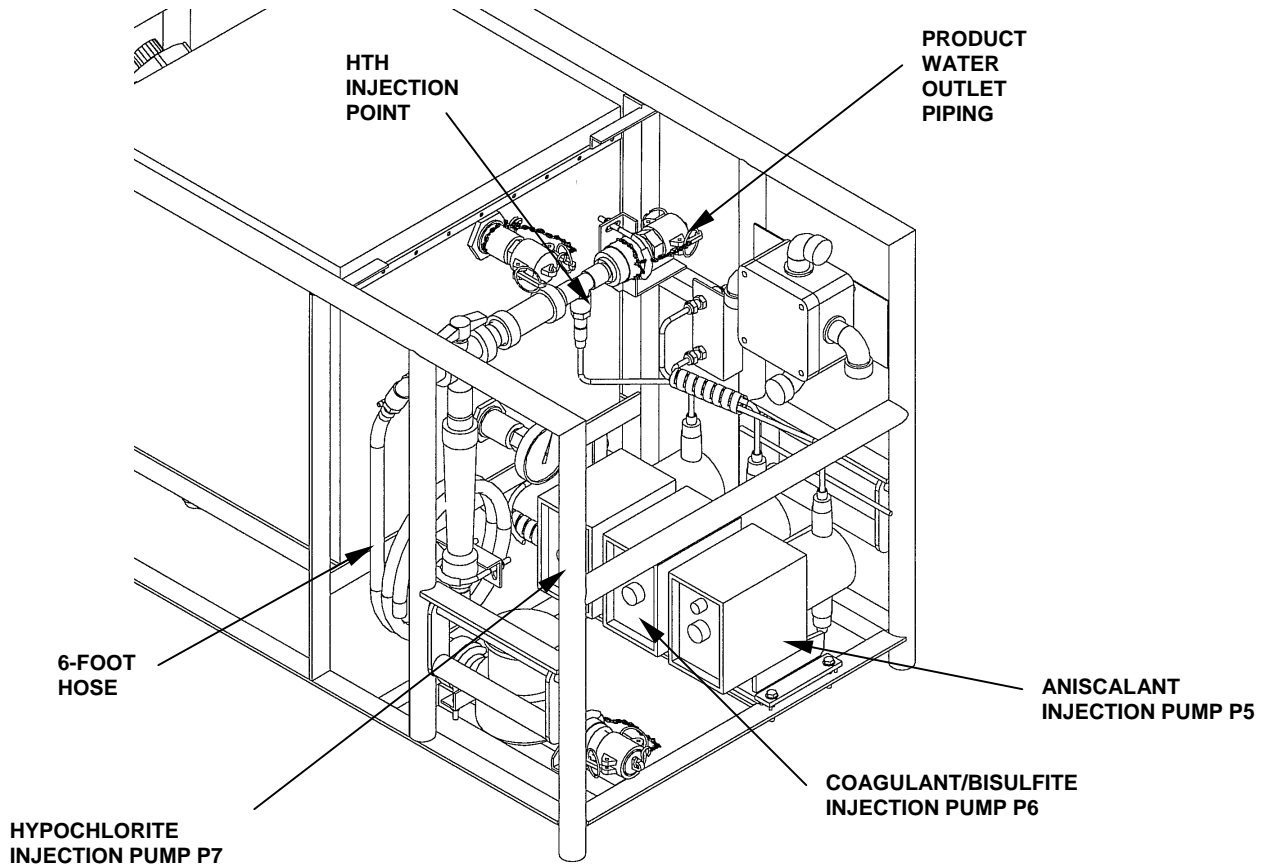

Figure 7. Hypochlorite Injection Port on Chemical module.
9. No connection is necessary from chemical pump P7 to the injection point on the product water out piping. See Figure 7.